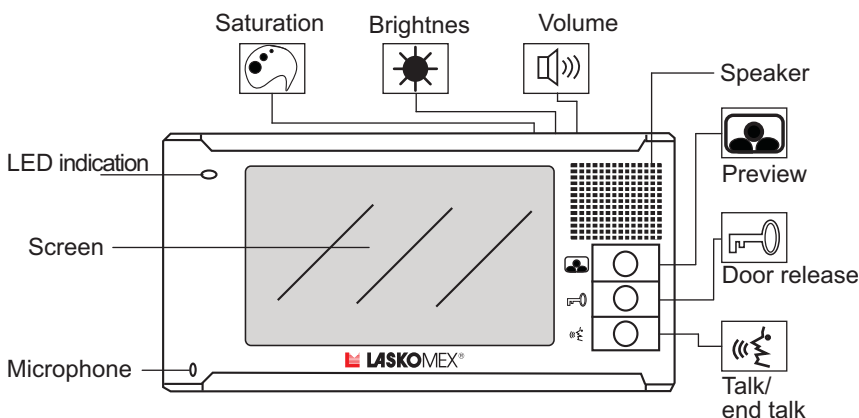

Fig 1. Monitor MVC-7002
- To switch on voice communication, press the button «☎» (talk, see Fig. 1). In two-monitor installations, if voice communication has been established by one of the monitors, the other one will switch off after approx. 1 minute.
- The MVC-7002 monitor features controls for volume, brightness and colour saturation adjustment (see Fig. 1).